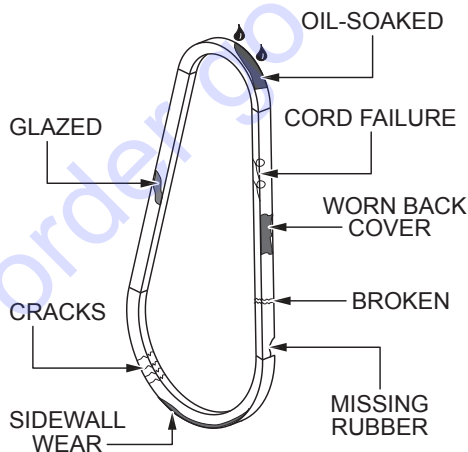

Figure 23. V-Belt Inspection
1. Inspect the V-belt (Figure 23) to determine if it is frayed, peeling, full of tiny cracks, has pieces of rubber missing, or is otherwise damaged.
2. Inspect the V-belt (Figure 23) to determine if it is oil-soaked or glazed (a hard, shiny appearance on the sides of the belt). Either of these conditions can cause overheating of the belt, which may weaken the belt and increase the danger of it breaking.